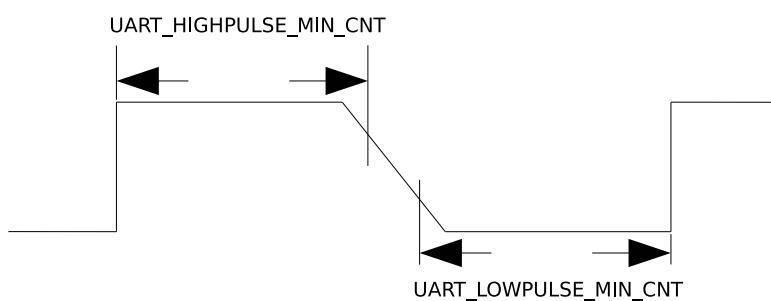

Figure 26.4-3. The Timing Diagram of Weak UART Signals Along Falling Edges
2. If UART signals are weak along falling edges as shown in Figure 26.4-3, which leads to an inaccurate average of `UART_LOW_PULSE_MIN_CNT` and `UART_HIGH_PULSE_MIN_CNT`, use `UART_POSEDGE_MIN_CNT` to determine the transmitter's baud rate as follows: